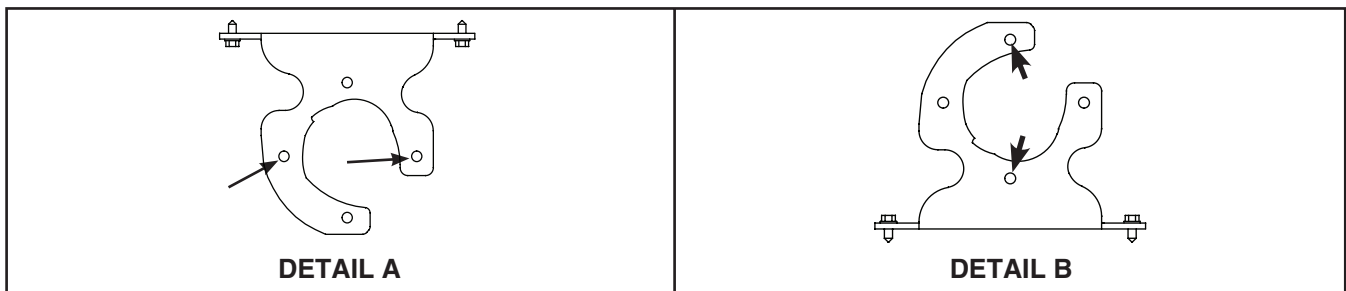

Figure 3. Replacement Mounting Bracket
- (1) Position mounting bracket (2A) in orientation shown in Figure 3, DETAIL A and align holes on right side with existing holes.
- (2) Mark and drill two 13/64-inch holes on left side.
- (3) Secure mounting bracket (2A) using four screws (9).
- (1) Position mounting bracket (2A) in orientation shown in Figure 3, DETAIL B on motor support installed in step 3 with left side of bracket extended slightly over outer side of motor support.
- (2) Align mounting bracket (2A) holes with motor support weld nuts and secure bracket using four bolts (7).
- b. Align damper motor (1) holes with mounting bracket holes indicated in Figure 3 (DETAIL A for model CAUA or DETAIL B for all models **except** CAUA) and install two capscrews (2C) through bracket and motor.